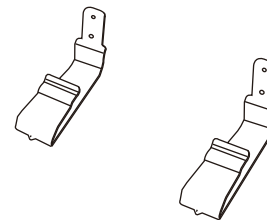

Figure 5
- c. Take out the free stand accessories from the package. Tightened the screws provided as shown in below installation diagram. (Figure 5)